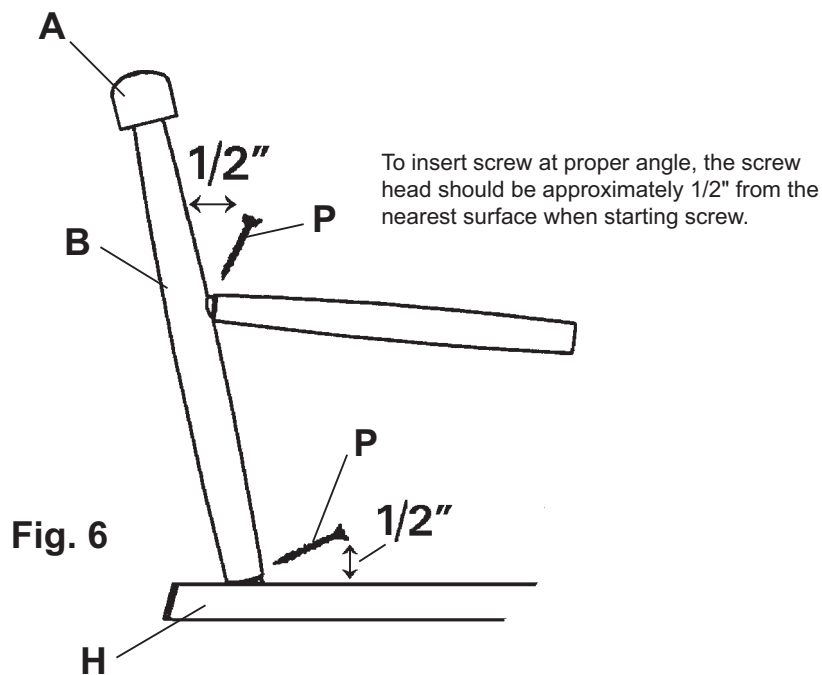

Fig. 6
6. Screw a #6 x 1-1/4" Black Pan Head Screw (P) through each leg chuck into the seat and through both stretchers into the legs. The screws must be inserted at such an angle so that they do not go through the other side of the seat or leg. See Figure 6.